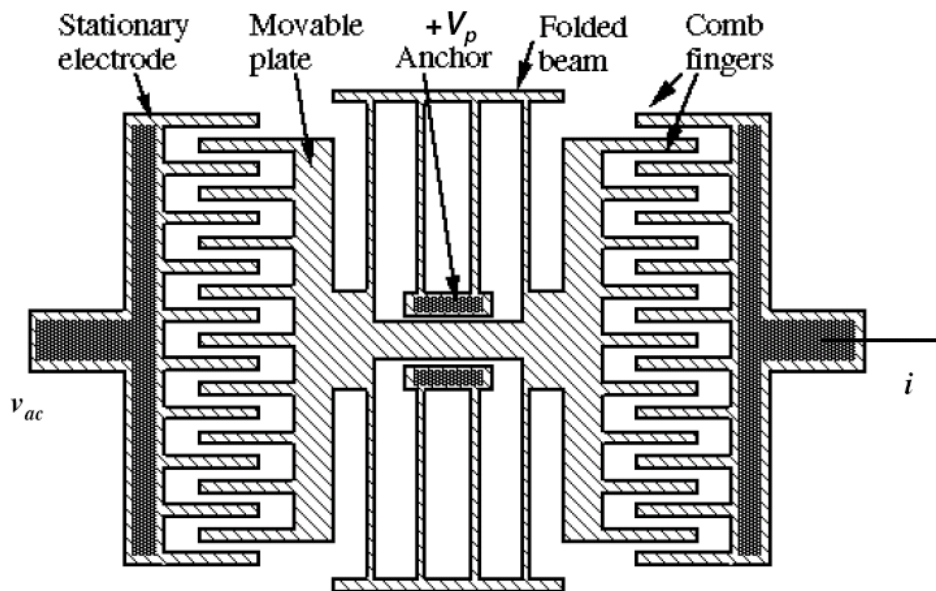

Fig. 2
2 A comb drive resonator is designed in a polysilicon surface micromachining process as shown in Fig. 2. The structural thickness of polysilicon is $6\text{ }\mu\text{m}$ and the mechanical parameters of the resonator are mass $m = 10^{-10}\text{ kg}$, stiffness $k = 10\text{ N m}^{-1}$ and a Quality Factor of 100 for motion in air. The nominal overlap length L of the comb electrodes is $10\text{ }\mu\text{m}$ and the gap g between adjacent electrodes is $1\text{ }\mu\text{m}$. One set of electrodes is used to actuate the resonator while the other set of electrodes is used to transduce the motional response. The number of electrode gaps N for each stationary electrode is as shown in Fig. 2.
- (a) Obtain an expression for the force generated using a comb drive actuator as a function of g , N and other device parameters for the drive configuration shown in Fig. 2. [15%]